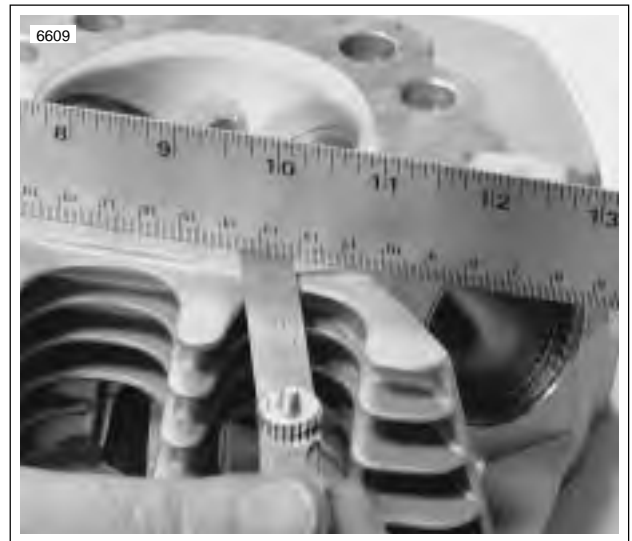

Figure 3-68. Checking Gasket Surface
4. See Figure 3-68. Check head gasket surface on head for flatness. Machine or replace any head which exceeds SERVICE WEAR LIMIT of 0.006 in. (0.152 mm).